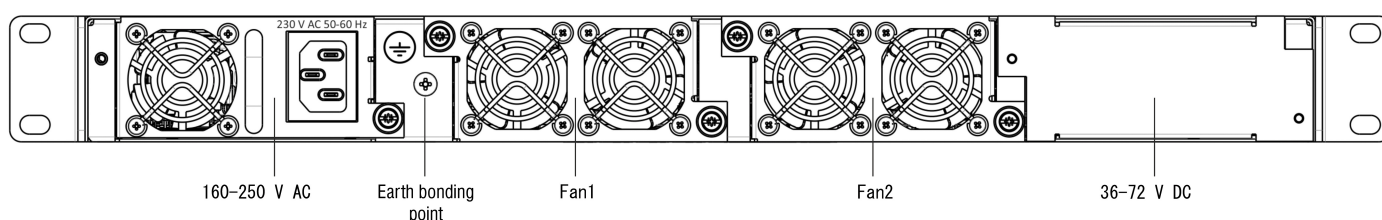

Figure 11 – LTX-8(16) rear panel
The rear panel of the device is shown in Figure 11.
There are ventilation openings on the device rear, front and side panels for heat dissipation. There are two ventilation units on the rear panel (figure 11).
- **Step 2.** Ground the case of the device. This should be done prior to connecting the device to the power supply. An insulated multiconductor wire should be used for earthing. The device grounding and the earthing wire section should comply with Electric Installation Code. The ground terminal is on the rear panel, figure 11.